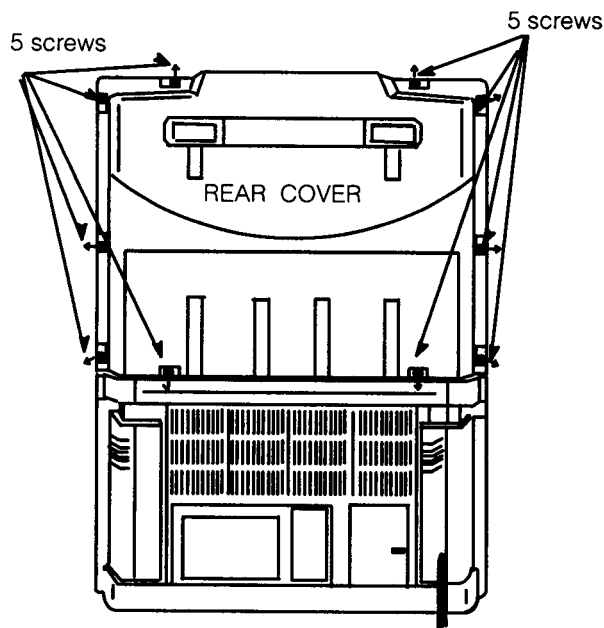

Fig. 20
1. Remove Top Rear cover by removing (10) screws as shown in **Fig. 20** .